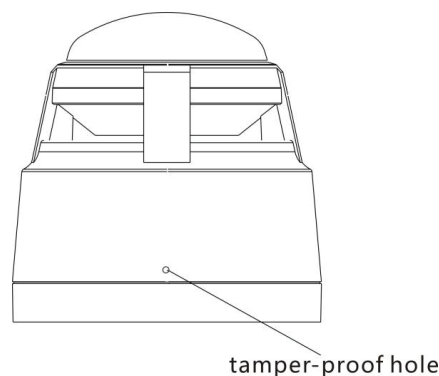

Fig .4
3. If the Sounder Beacon is required to be tamper-proof, fix it with ST2.9x5 self-tapping screws through the tamper-proof hole (see Fig .4) on the base.